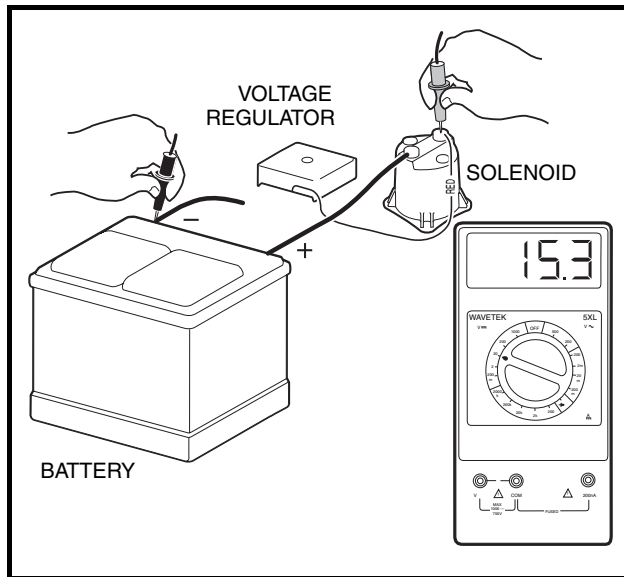

Figure 11-38 Test Voltage Regulator
5. Turn the key switch to the OFF position, killing the engine. Use a multimeter set to 20 volts DC and place the red (+) probe on the large post of the solenoid with the red wire from the voltage regulator attached. Place the black (–) probe on the negative (–) battery post (**Figure 11-38, Page 11-32**). With the Forward/Reverse handle in the NEUTRAL position and the wheels chocked, turn the key switch to the START position to start the engine. Press the accelerator to run the engine at full governed speed. If the reading is between 14.7 and 15.3 volts, the regulator is good. If the reading is lower than 14.7 volts but rising steadily, check battery condition. **See Hydrometer Test on page 11-21.** If the reading is lower than 14.7 volts and not rising, and the starter/generator is good; or if the reading is over 15.3 volts and continues to rise, replace voltage regulator. **See Voltage Regulator Removal, Section 12, Page 12-11.**